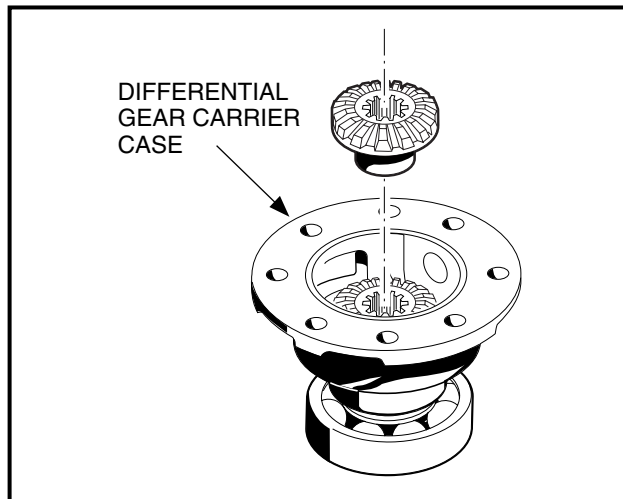

Figure 7-35 Differential Gear
- 1.2. Install differential gear (80) into carrier case (73) (**Figure 7-16, Page 7-9**). Also see **Figure 7-35, Page 7-21**
- 2.2. Install differential gear (80) into carrier case (87) (**Figure 7-17, Page 7-10**). Also see **Figure 7-35, Page 7-21**